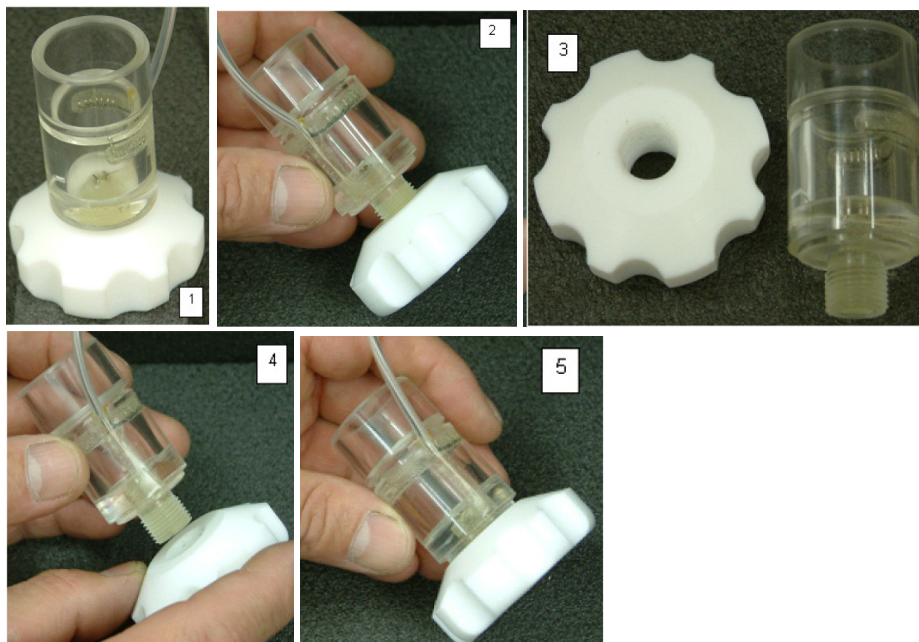

Fig. 48—Steps 1-5 show how to replace the electrode array of the sensor.
4. If different sized hearts are going to be used on this system, or if the electrode array in the sensor is damaged, the sensor can be easily replaced by unscrewing the sensor from the base and attaching a new one (Fig. 48).